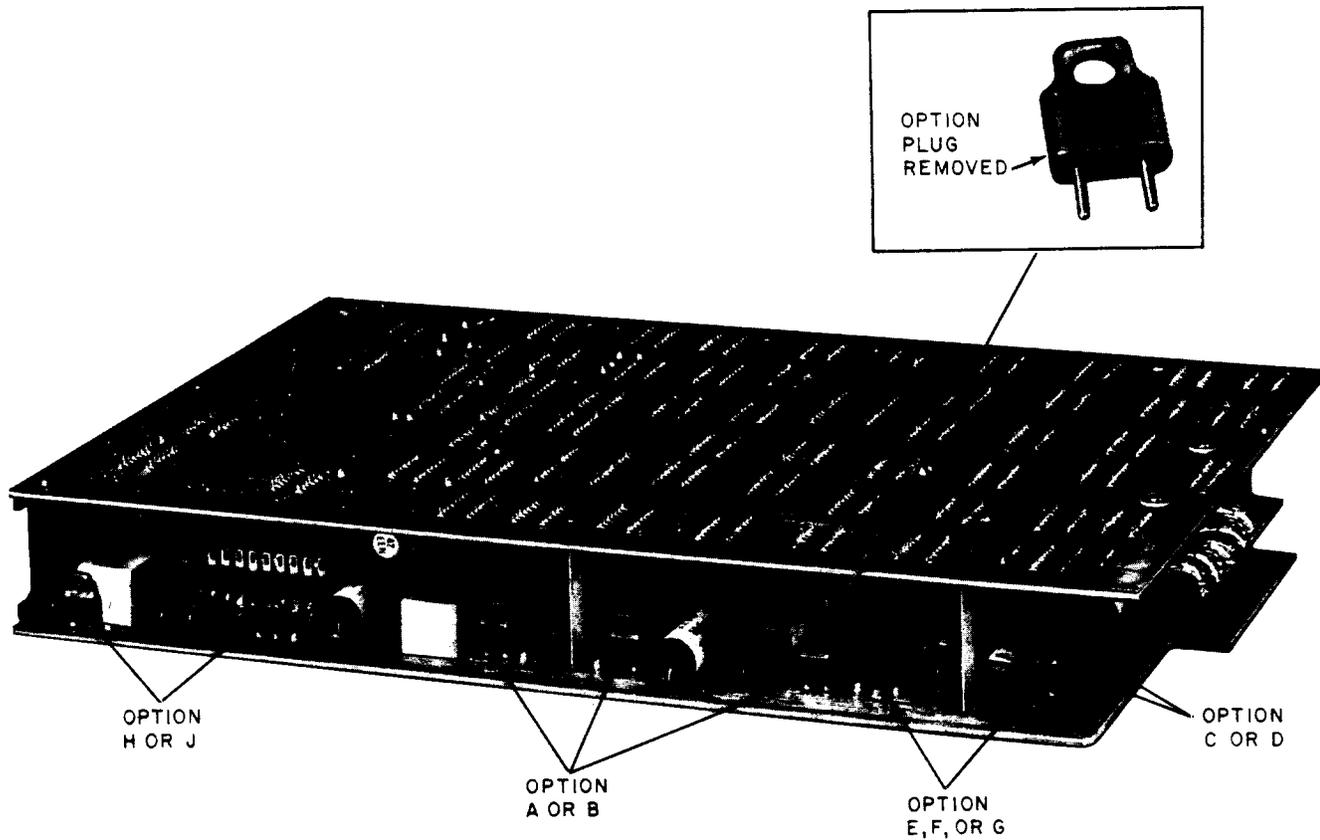

Fig. 4—Data Set 407A-Type—Option Strap Locations
- 10 Verify that all pertinent data set options are properly installed per Table A and Fig. 4.